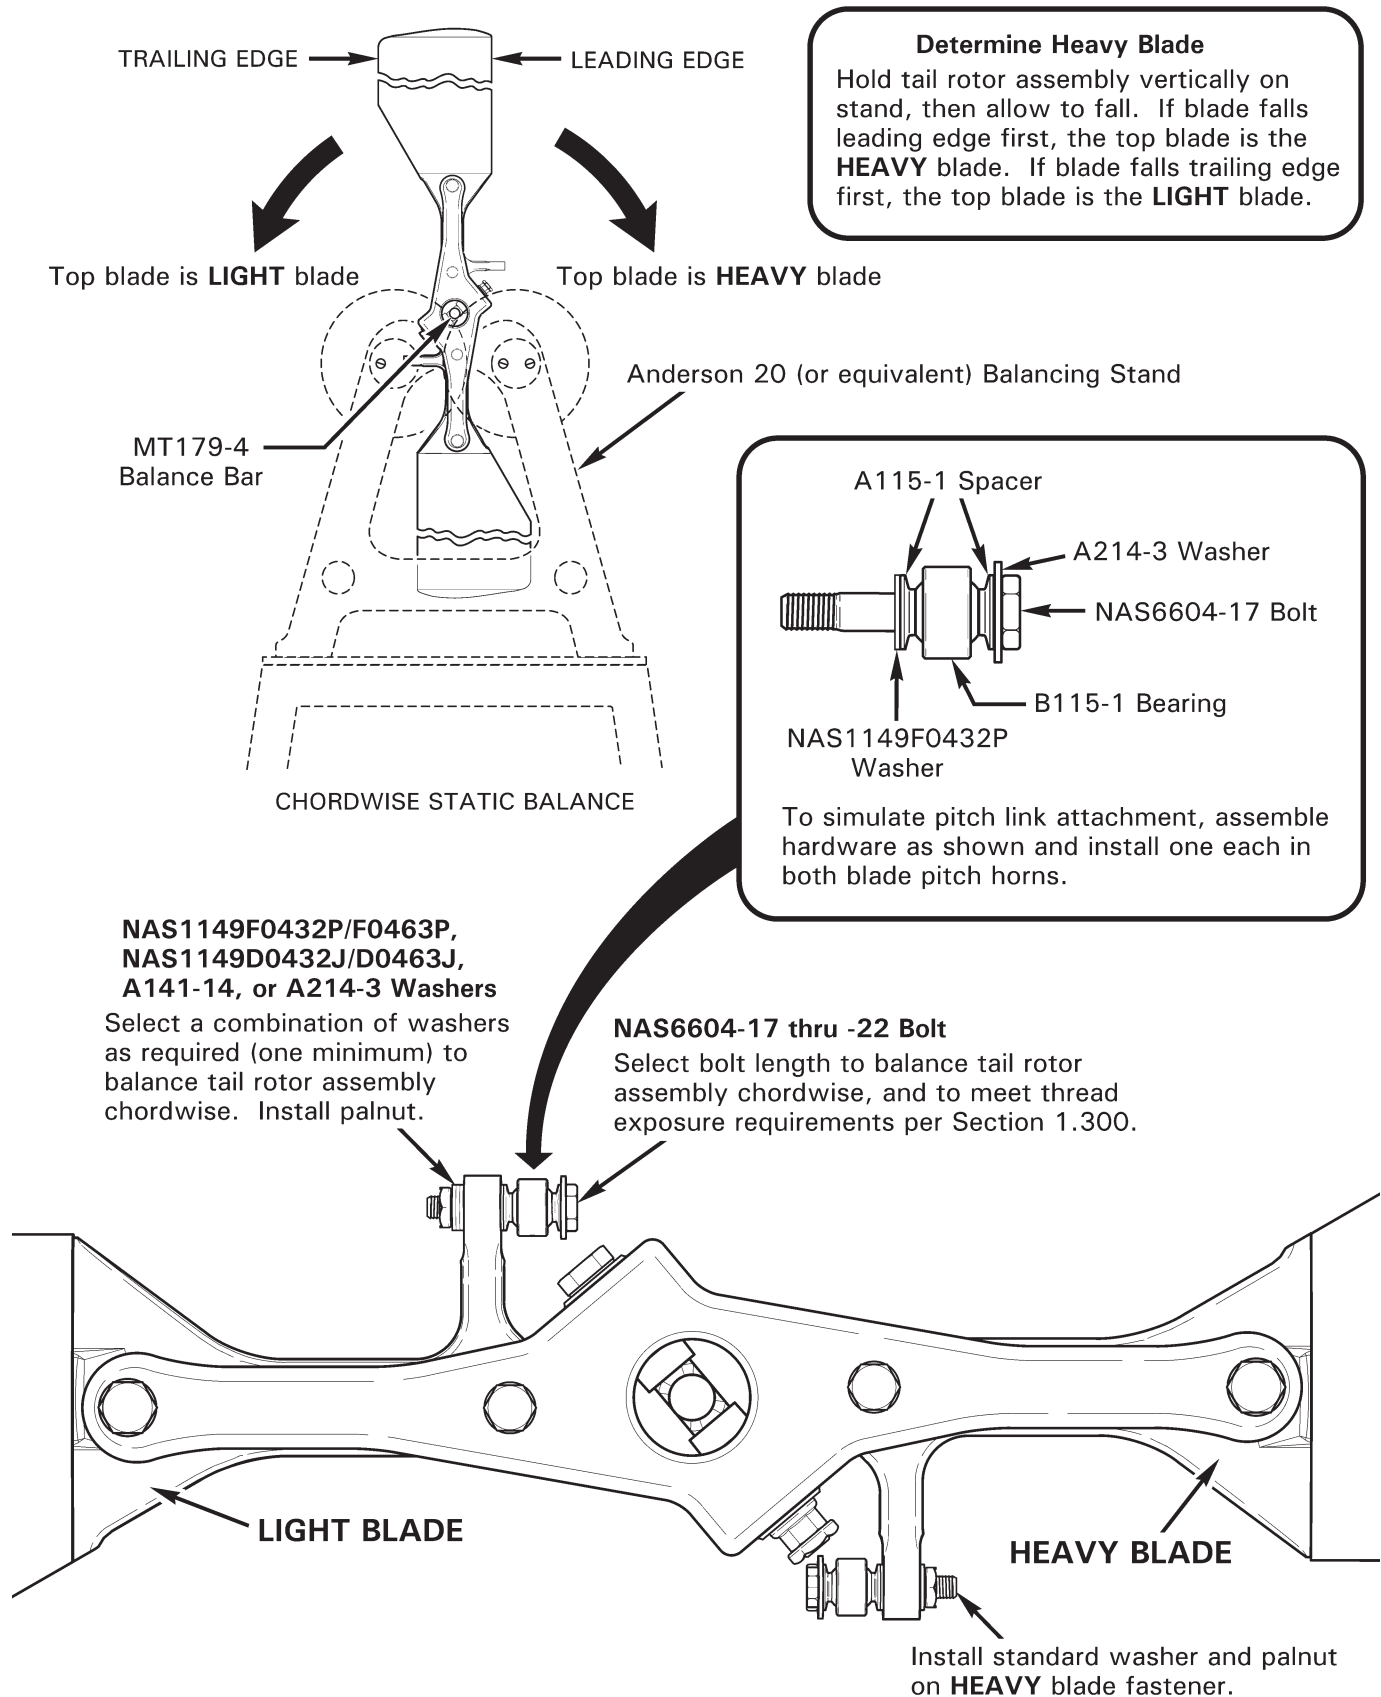

FIGURE 30-3 CHORDWISE STATIC BALANCE
1. Refer to Figure 30-3. Install MT179-4 balance bar into tail rotor assembly. Install teeter hinge bolt, tighten until bearing spacers firmly clamp bar, and install palnut finger-tight. Using a carpenter's square, adjust balance bar until approximately perpendicular to hub.